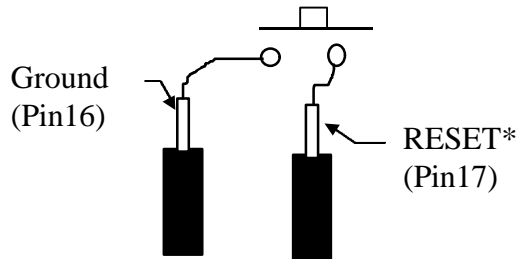

Figure 17 Connectors for the Download-Run and RESET switches.
3. Wire the push button *Reset* and the *Download-Run* switches according to the circuit in Figure 10 and Figure 17. The power *On-Off* switch is wired in Section 6.9.